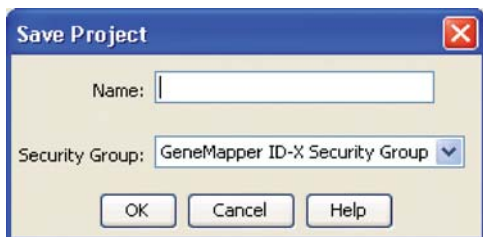

Figure 15. The Save Project window.
10. If all analysis requirements are met, the Save Project window will open (Figure 15).
9. If all analysis requirements are met, the Save Project window will open (Figure 15).